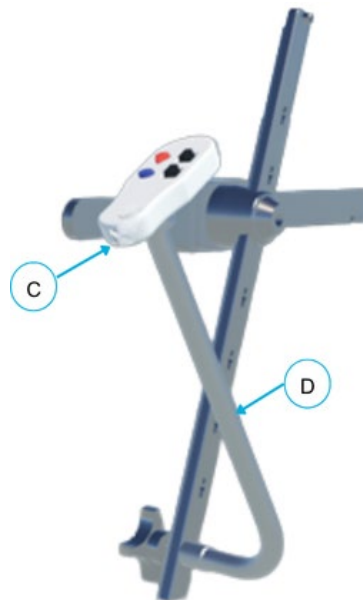

Figure 10-27: Controller Connection to Controller Arm
5. Place the Controller (**C**) on the Controller Arm (**D**) (**Figure 10-27**), connecting the magnet on the back of the Controller with the magnet on the end of the Controller Arm.